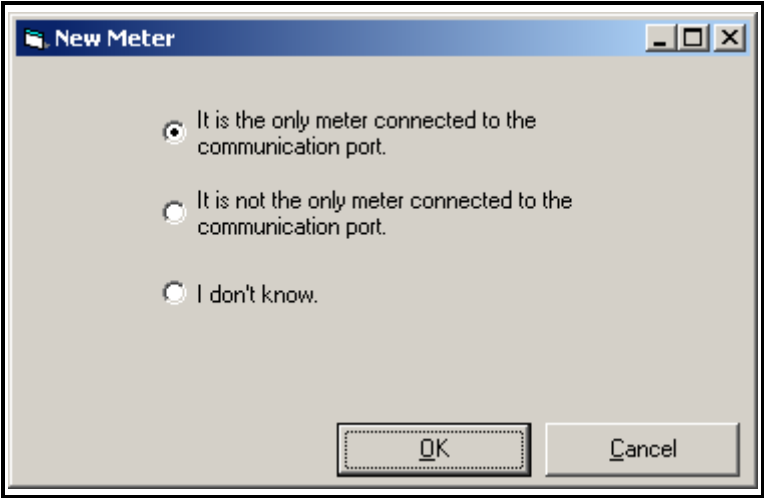

Figure 5: The Only Meter Dialog Box
- 5. After responding to the previous dialog box, the dialog box shown in Figure 5 below appears. In most instances, users connect their PC to one instrument only via a direct serial cable. Therefore, select the *"It is the only meter connected to the communication port"* radio button and then click on the [OK] option button.